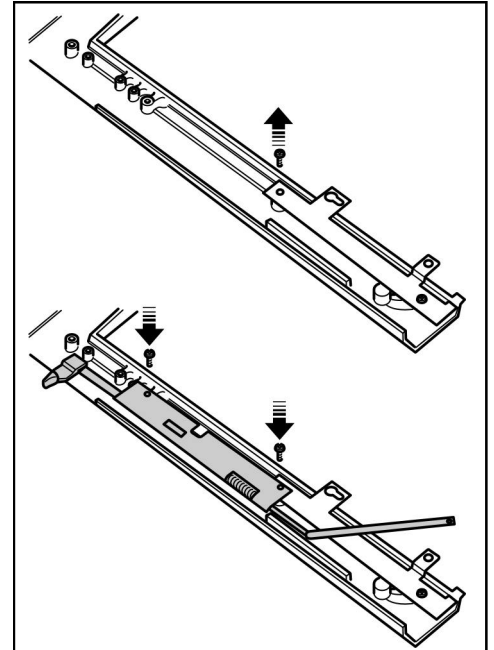

Figure 30. Attaching slider control to Heritage fascia
1. The fascia is supplied with two brackets secured at the bottom. Lie the fascia face down and remove the upper screw from the left hand bracket (See figure 30).
2. Attach the slider control to the rear of the fascia using 2 'countersunk tapite' screws (See figure 30).